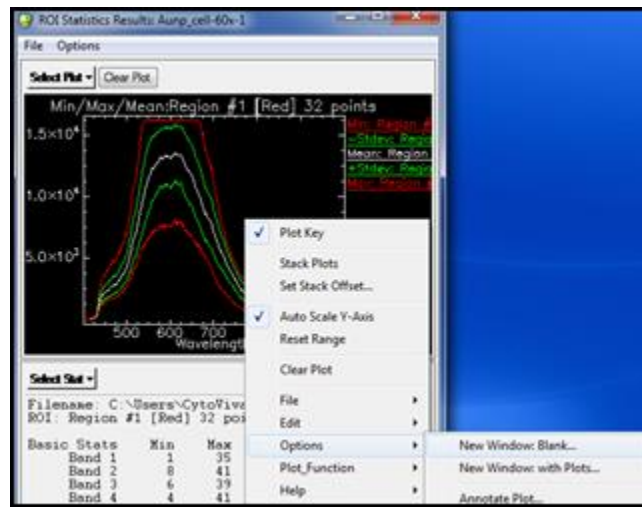

Figure 5.11c. ROI Statistics Results
- Click New Window: Blank (Figure 5.11c).